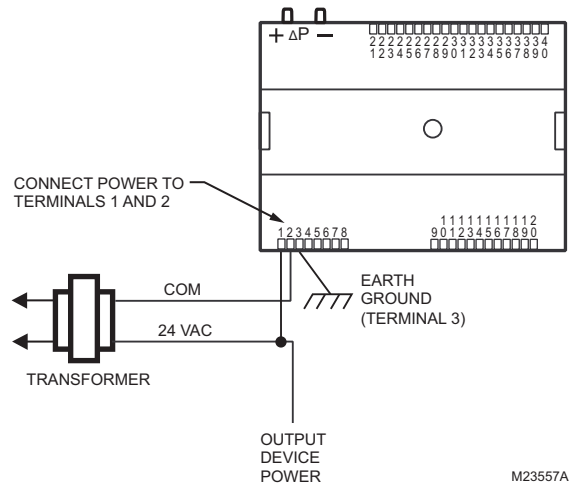
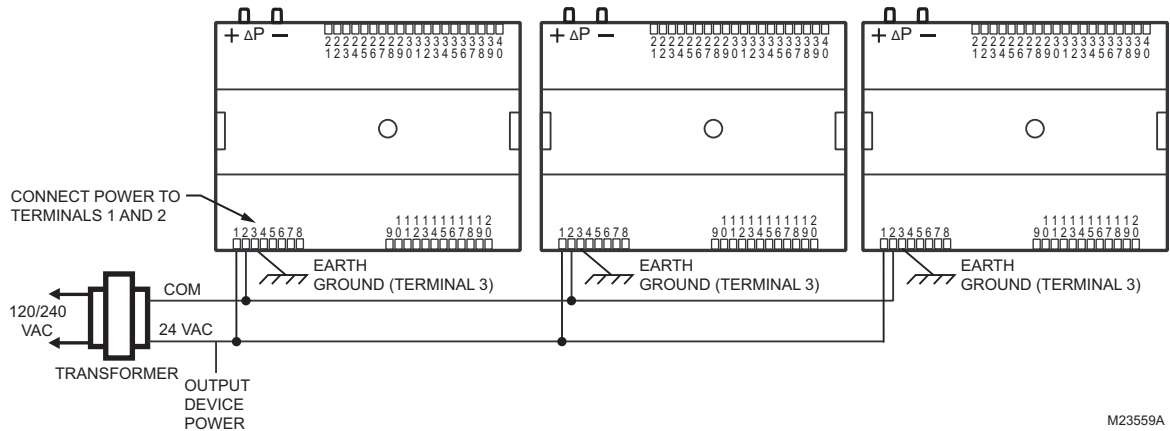

Fig. 11. Power wiring details for one controller per transformer.
Fig. 13. Power wiring details for two or more controllers per transformer.
- When multiple controllers operate from a single transformer, connect the same side of the transformer secondary to the same power input terminal in each device. The earth ground terminal (terminal 3) must be connected to a verified earth ground for each controller in the group (see Fig. 13 on page 11).
See Fig. 11–Fig. 13 beginning on page 10 for illustrations of controller power wiring. See Table 4 for VA ratings of various devices.
- For multiple controllers operating from a single transformer, the same side of the transformer secondary must be connected to the same power input terminal in each device. The earth ground terminal must be connected to a verified earth ground for each controller in the group (see Fig. 13 on page 11). Controller configurations are not necessarily limited to three devices, but the total power draw, including accessories, cannot exceed 100 VA when powered by the same transformer (U.S. only).
- Keep the earth ground connection wire run as short as possible (refer to Fig. 11–Fig. 13 beginning on page 10).
- Do not connect earth ground to the controller's digital or analog ground terminals (refer to Fig. 11 and Fig. 13).
on page 7. The earth ground terminal (terminal 3) must be connected to a verified earth ground for each controller in the group (see Fig. 13 on page 11).
Fig. 11 depicts a single controller using one transformer.
More than one controller can be powered by a single transformer. Fig. 13 shows power wiring details for multiple controllers.